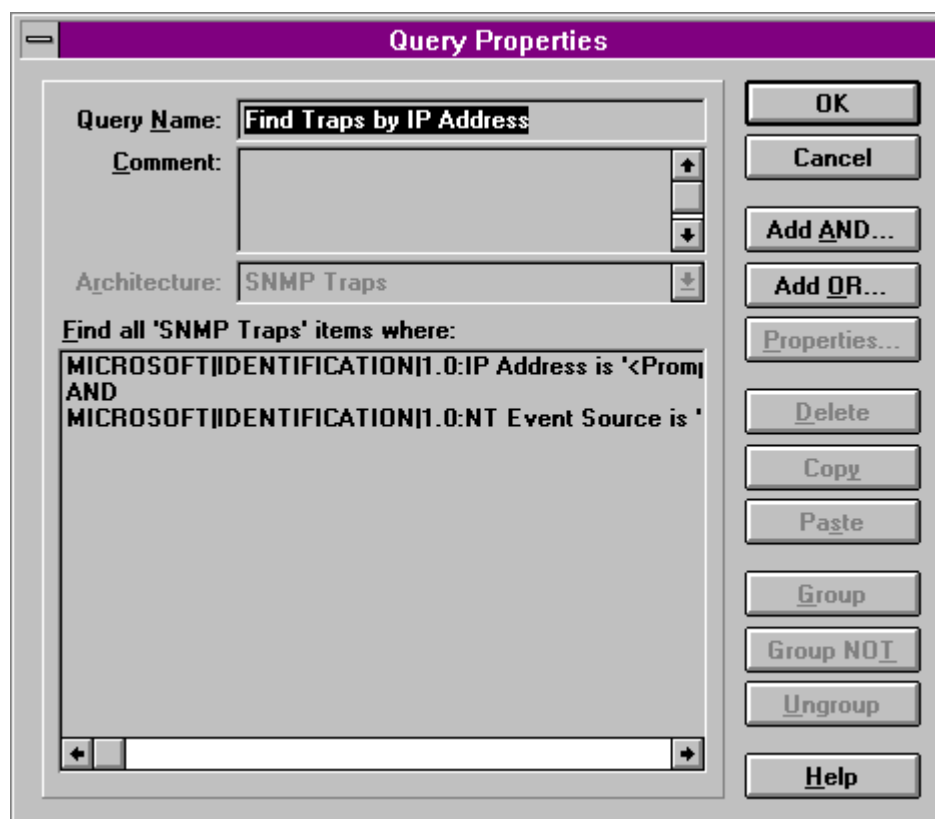

Figure 6-21. Using the Query Name attribute
2. Enter a name, such as Find All Traps by IP Address, select SNMP Traps from the Architecture list box and press the *Add And* button. An example of the Query Properties window is shown in Figure 6-21.